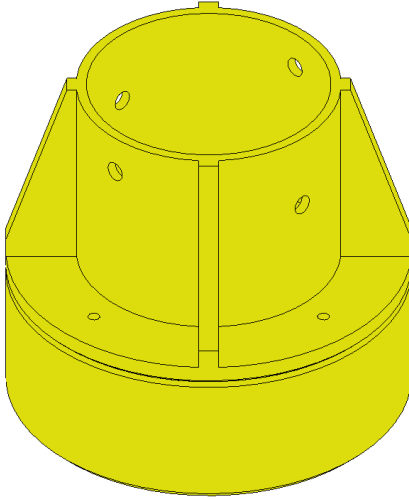

Figure 4: Assembly of *component 1*, *component 2* and *component 3* of a ground support element.
4. Place *component 3* on top of the assembly from the previous step. Use four M3 screws to secure the part. The result is shown on figure 4.